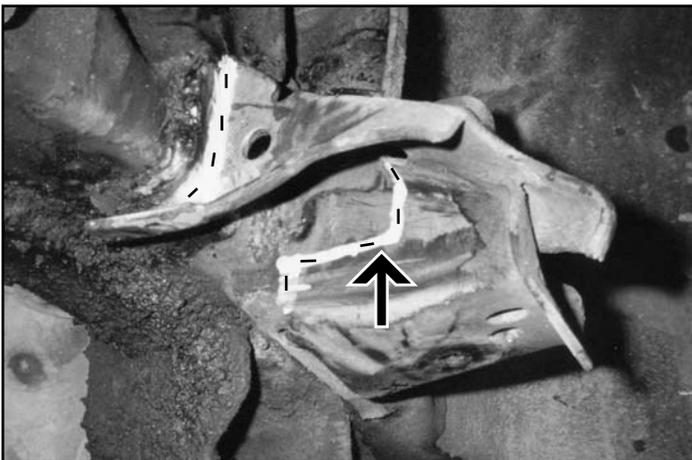

FIG. 10-View from front-Dashes indicate cut path
32. On the rear upper control arm pocket, cut the extended stop support wing off flush with frame. On the front surface of the pocket itself, make an outward 2" horizontal cut about 1/2" below the frame. Cut vertically through the bracket to meet the horizontal cut. (Fig. 10)